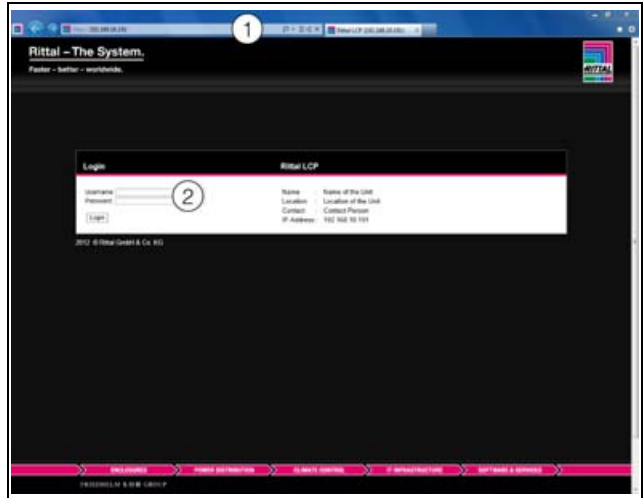

Fig. 54: Log-on screen with an HTTP connection
- In the browser, enter the address **http://192.168.0.190** (fig. 54, item 1). The log-on dialogue for registering the device will appear.
- Log in with the username **admin** and the password **admin** (fig. 54, item 2).